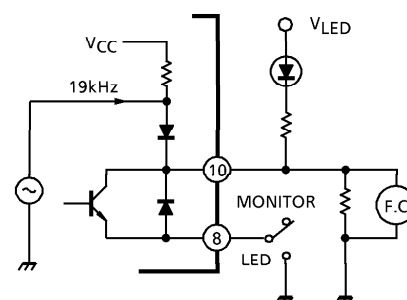

Fig.3
(3) f_{VCO} monitor
The LED terminal pin⑩ can be used as f_{VCO} (19kHz) monitor terminal, in case that the terminal pin⑧ is open, as Fig.3.